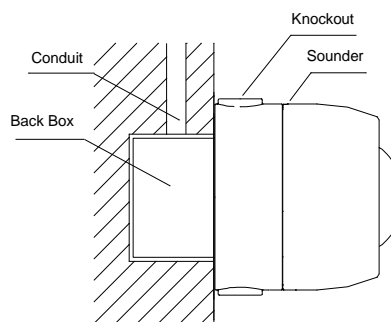
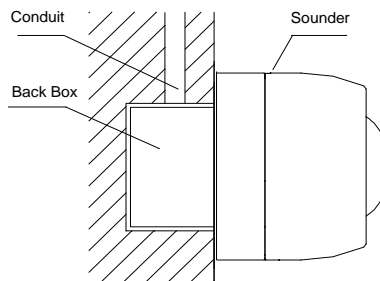
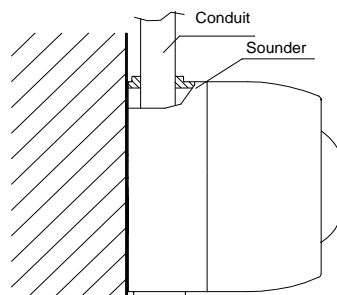

Fig. 3a
Fig. 3b
Fig. 4
- ✧ When surface mounted, the sounder should be placed 0.2m from the ceiling for normal space height. When the conduit is embedded, the base can be mounted on the back box. When the conduit is surface mounted, the deep base should be adopted. Knock the knockout hole, and connect the conduit with it. The mounting hole spacing and mounting direction are shown in Fig. 2. Mounting method is shown in Fig. 3a and Fig. 4. The conduit must be embedded when the shallow base is used, as shown in Fig. 3b.